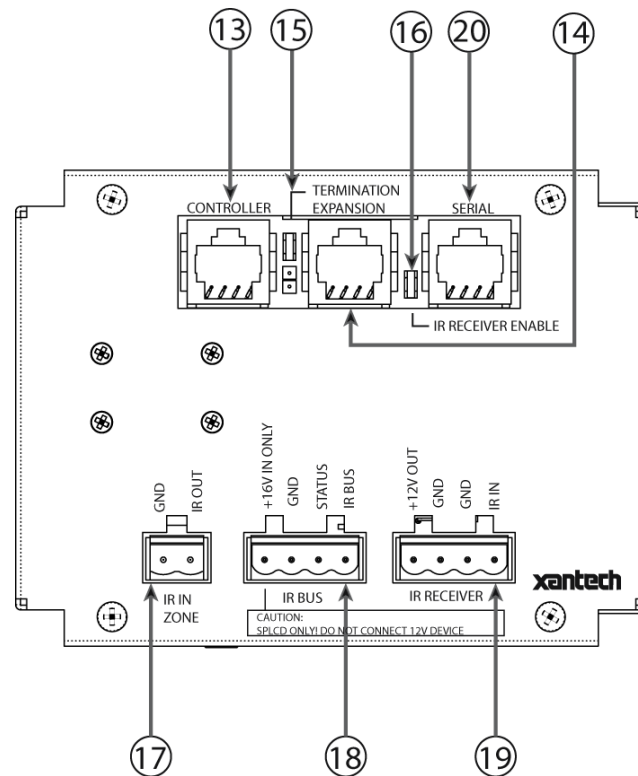

Figure 3 – SmartPad LCD™ – Rear Panel Connections and Functions (Model SPLCD57G Displayed)
POWER SUPPLY & STANDARD XANTECH IR OUTPUT BUS WIRING (Figure 3- Item 18)
(Figure 3 – Item 19)
A 4-terminal WECO connector is provided for convenient wiring of external IR Receivers (780, 291, 480, 490 Series) to the SPLCD display. IR commands received here will be rebroadcast and passed out via the Xantech IR Bus of the SPLCD (**Figure 3 – Item 18**). RC68 commands received here (of the proper Code Group, C9 set as default) can trigger internal IR or RS232 Macros programmed into the SPLCD.
(Figure 3 – Items 13/14)
NOTE: When the **SPLCD** is the *last keypad* connected in line with the **MRC88**, the **Zone Termination Jumper** (Figure 3 – 15) needs to be installed.
1. Using **CAT5 cable** terminated at both ends with RJ45 connectors, (**EIA/TIA 568B standard**) connect the **EXPANSION Terminal** (Figure 3 – 14) on the **SPLCD Rear Panel** to the RJ45 **Controller Terminal** on the rear of the next **SPLCD or MRC88KP** in line. (Four keypads max per zone.)
2. **Remove the Zone Termination Jumper** (Figure 3 – 15) *from all* but the **last keypad** in the daisy chain.
Serial Port Wiring (RS422232)**(Figure 3 – Item 20)**